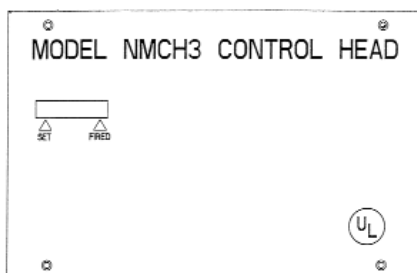

FIGURE 7
The Model NMCH3 Mechanical Control Head is a fully mechanical control head which can be connected to the A-15/25/35/50/70 tank valve. This control head will support a fusible link detection system, a remote mechanical pull station (Model RPS-M), and an electric shut-off valve. A micro switch (Model MS-SPDT, MS-DPDT, MS-3PDT, or MS-4PDT) can be ordered separately and field installed. There is no local manual actuation for the Model NMCH3. The Model NMCH3 control head can actuate a maximum of five (5) tanks. See Figure 7.